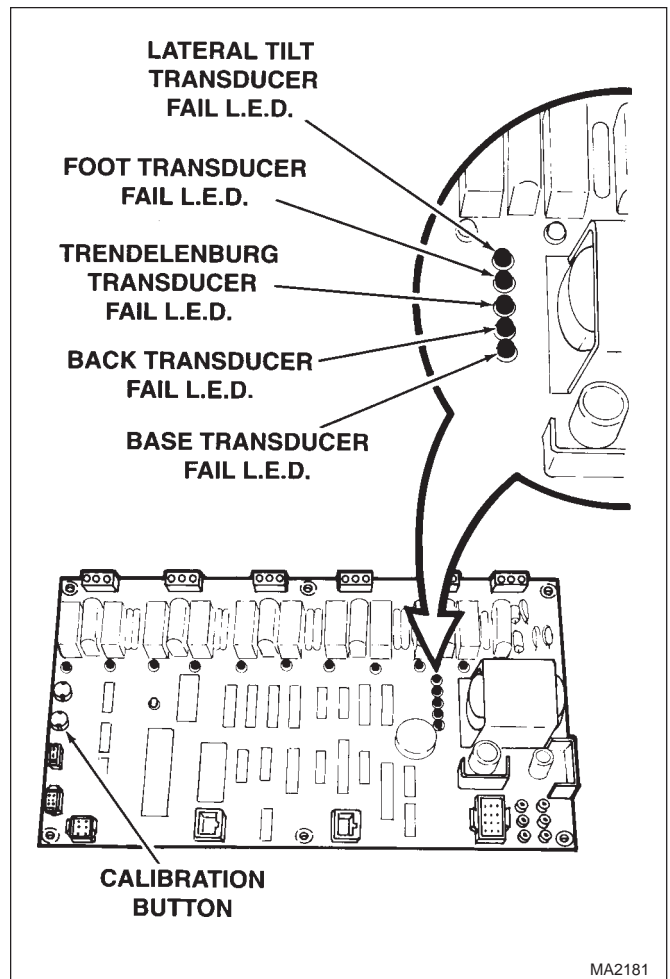

Figure 4-58. PC Control Board Calibration
- (1) Remove electrical cover (Refer to para 4-4).
- (2) Press and hold the CALIBRATION button until a continuous fast beep sounds; then release the CALIBRATION button. See Figure 4-58.